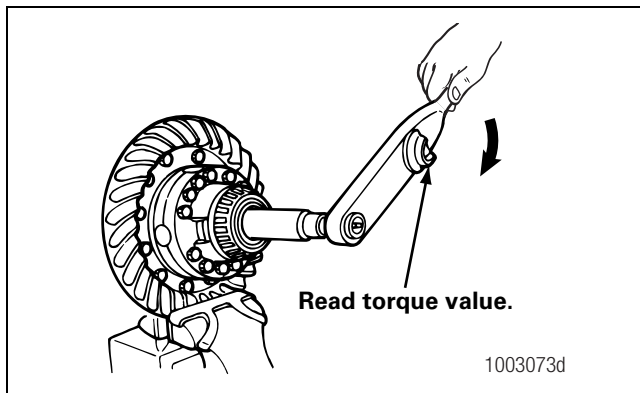

Figure 5.48
4. Place a torque wrench onto the nut of the tool and rotate the differential gears. As the differential gears rotate, read the value indicated on the torque wrench. Figure 5.48.